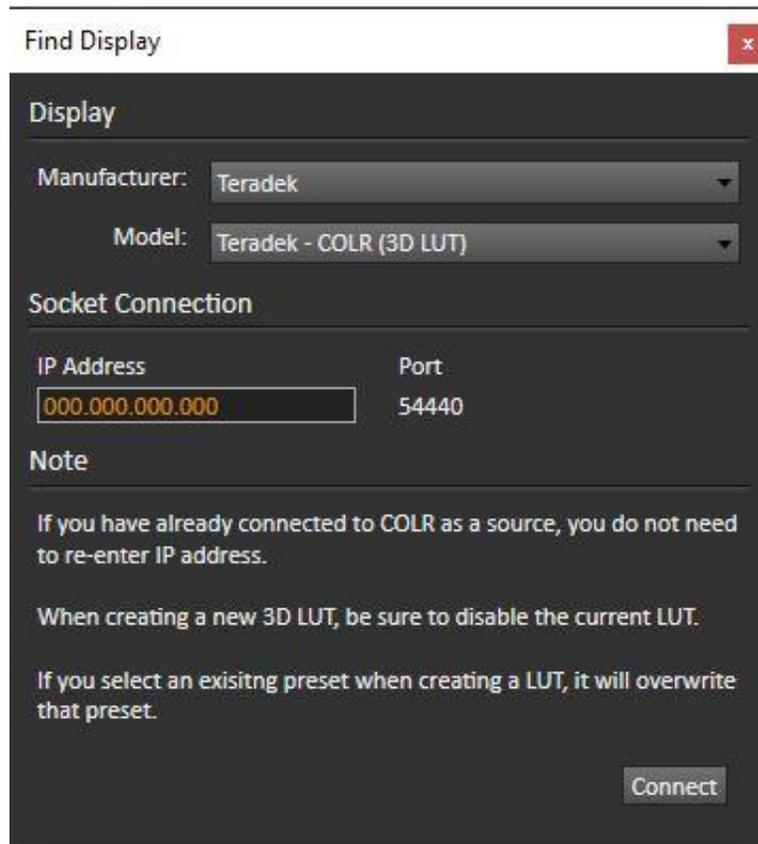

Figure 4. CalMAN Find Display dialog, for connecting to the COLR for display control.
- On the *Find Display* dialog (Figure 4), under *Manufacturer*, select 'Teradek.'